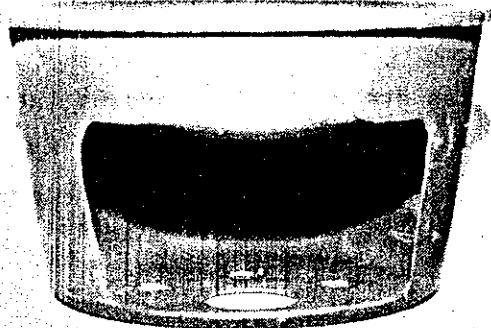

FIG 2 - MODIFIED TAIL LIGHT SHROUD
- c. Modify the tail light shroud as detailed in Fig 1 and shown in Fig 2 and 3.